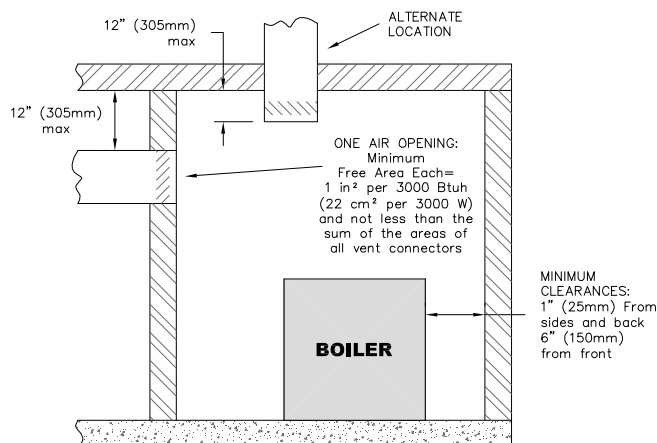

Figure 1.6: Air Openings – All Air from Outdoors through One Opening
- b. **One Permanent Opening Method:** Provide one permanent opening beginning within 12 inches (305 mm) of the top of the space. The opening shall communicate directly with the outdoors, communicate through a vertical or horizontal duct, or communicate with a space that freely communicates with the outdoors. The opening shall have a minimum free area of 1 in² per 3000 Btu/hr of total rated input for all appliances in the space and not less than the sum of the cross-sectional areas of all vent connectors in the space. The gas-fired equipment shall have clearances of at least 1 inch (25 mm) from the sides and back and 6 inches (150 mm) from the front of the appliance. See Figure 1.6 for this arrangement.